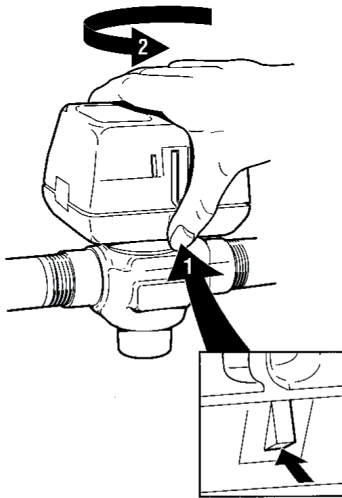

Fig. 6 Latch mechanism
- 3) The actuator head is automatically latched to valve (see figure 6). To remove, lift up on the latch mechanism located directly below the red manual open lever. Press the actuator head down towards the body with moderate hand force and turn counter-clockwise by 1/8 turn (45 degrees) simultaneously. Lift the actuator head off the valve body.